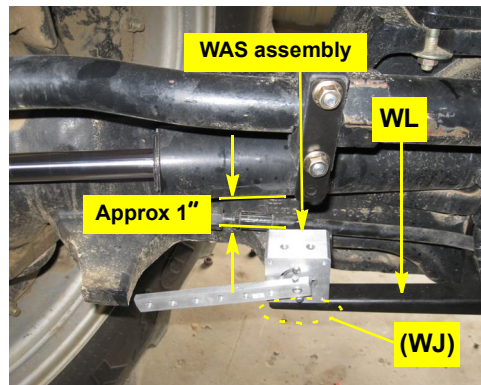

Figure 2d: Installed WAS assembly
d. Attach the assembled WAS from steps 1a through 1c to bracket **WL** using bolts **WJ** (under the bracket, not shown) with the WAS connector facing the center of the machine. The top of the WAS assembly should be approximately 1" from the bottom of the steering cylinder (Figure 2d).